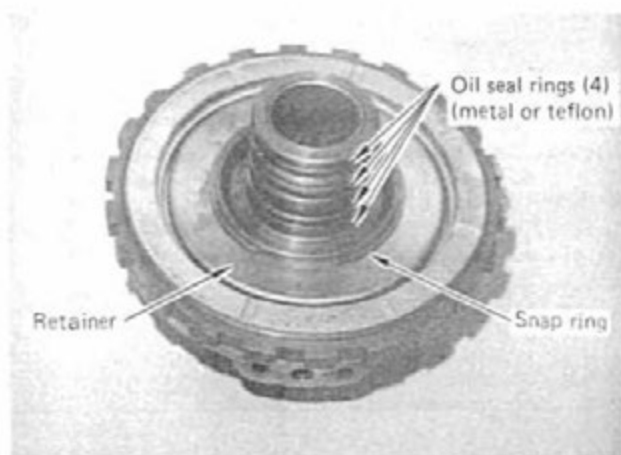

FIGURE 29
STEP 4. Remove and discard four metal hook-type or teflon seal rings from the front of the center support. (See Fig. 29) Remove the spring retainer snap ring. Remove retainer and three to twelve return springs. Remove and discard two rubber tip seals. Put springs, retainer and snap ring in oil pan.